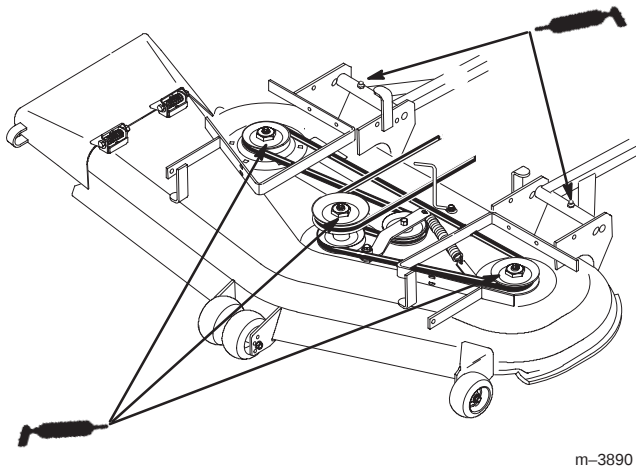

Figure 49
2. Grease the fittings on the three spindle bearings until grease comes out lower seals (Fig. 49).
- Grease the fittings on the push arms(Fig. 49).